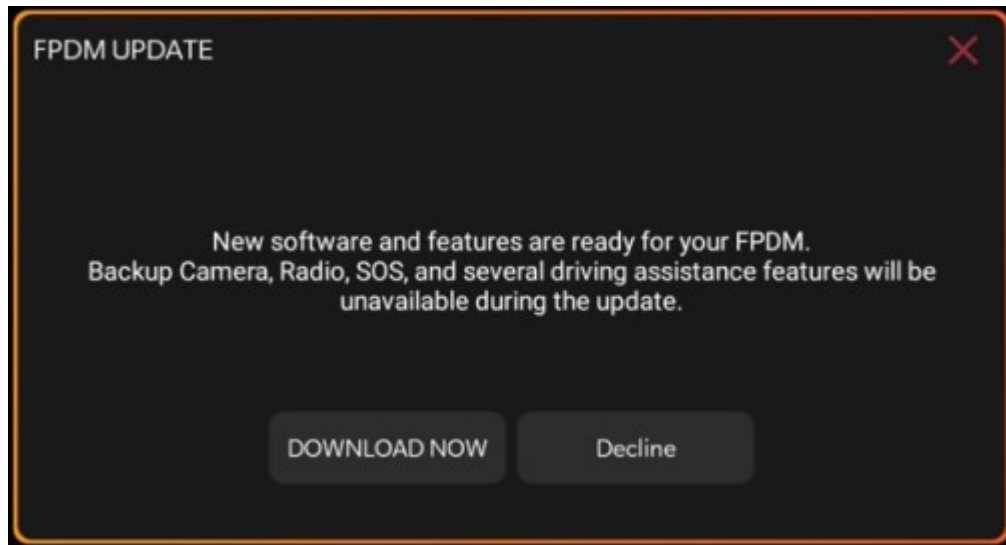

Fig. 4
12. Accept the pop-up to download on the radio (Fig. 4) .